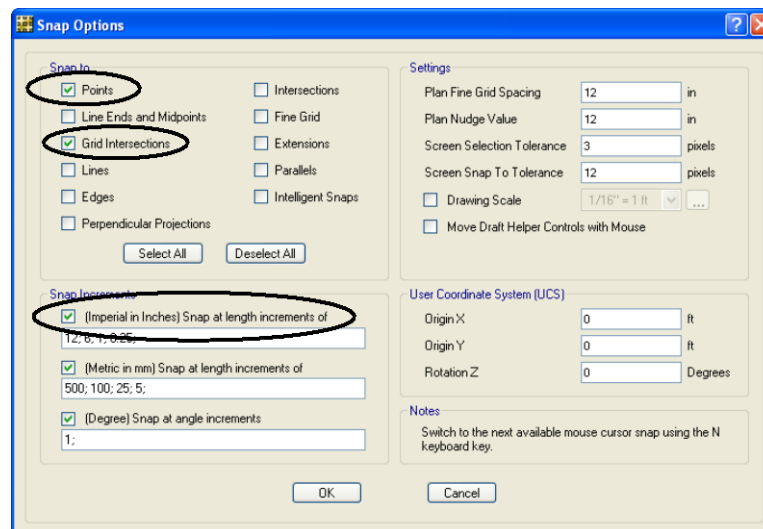

Figure 20 Snap Options form
- A. Click the **Draw menu > Snap Options** command to display the Snap Options form shown in Figure 20.